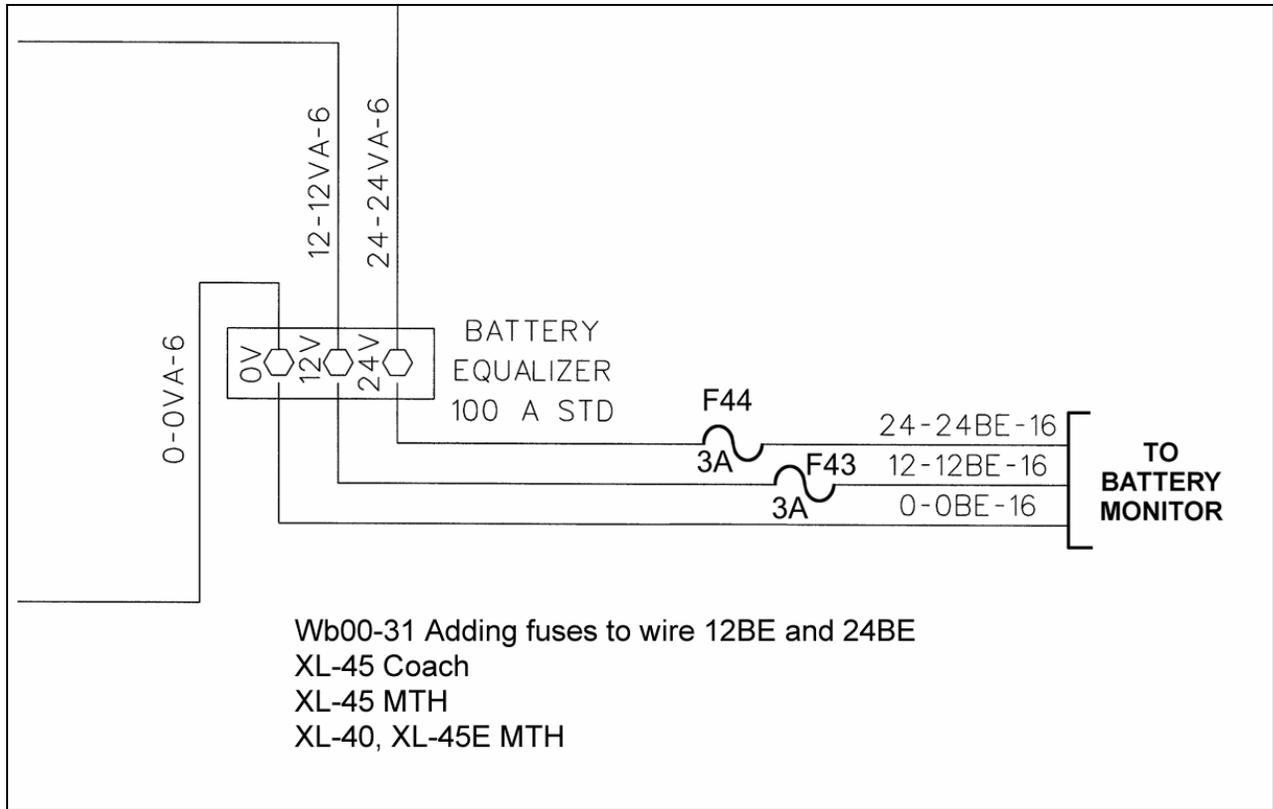

FIGURE 5: Wb00-31 ADDING FUSES TO WIRES 12BE & 24BE
**Note:** Add figures 5 & 6 to your wiring diagram as a reminder.